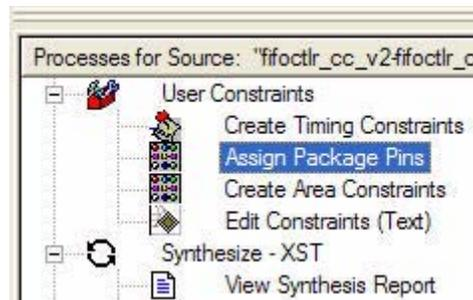

Figure 13: Launch the PACE tool from ISE
1. Launch the PACE tool from ISE (Figure 13) or command line.